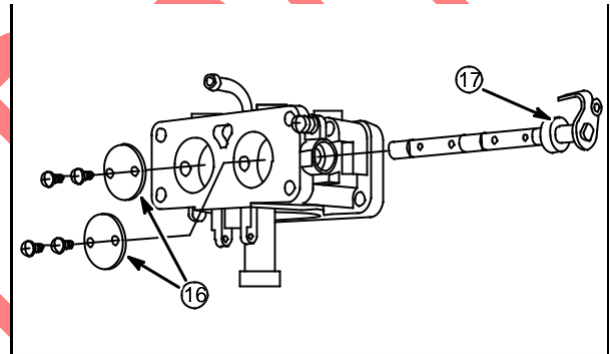

Fig. 122
Mark throttle plates (16), Fig. 122, before removal so they will be re-installed in the original position. Sides of throttle plate are beveled.